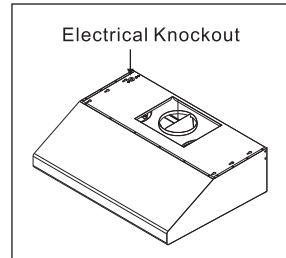

Fig.1
1. Remove the top electrical knockout, you may plan to bring power to the range hood either through the cabinet or through the wall (Fig.1)
- b. The electrical knockout hole. (Fig. 1)